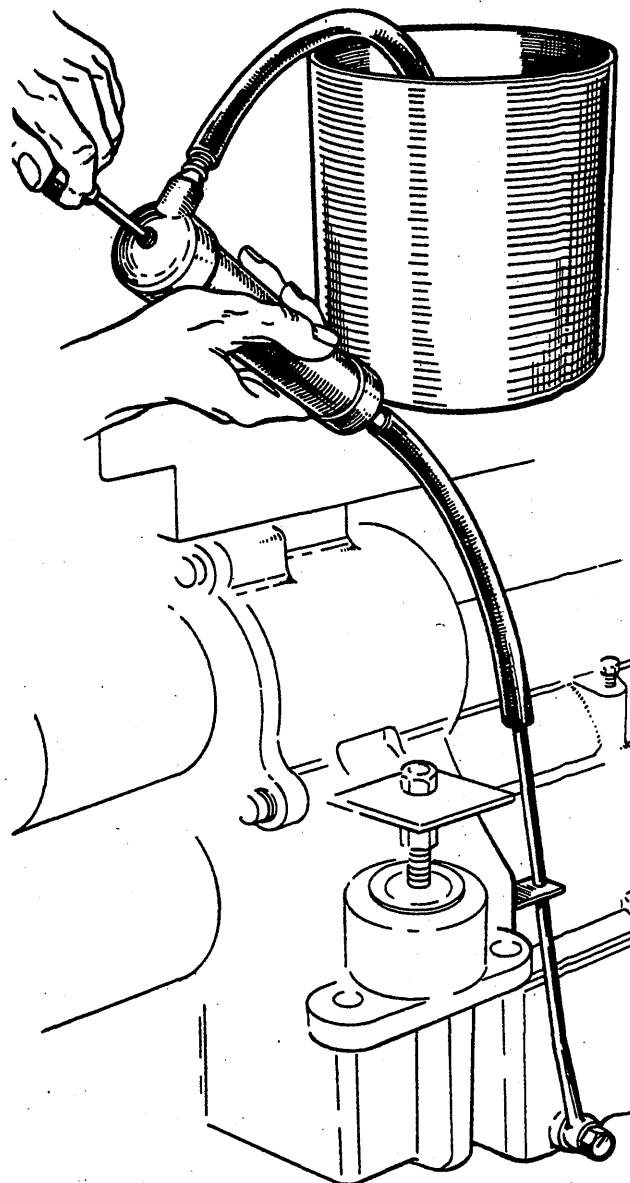

FIGURE 1
3. Change oil in sump. Oil may be sucked out of sump by attaching a suction hose (3/8" ID) over the outside of the oil sump pipe, located aft of the dipstick. Figure 1. See Note, next page.